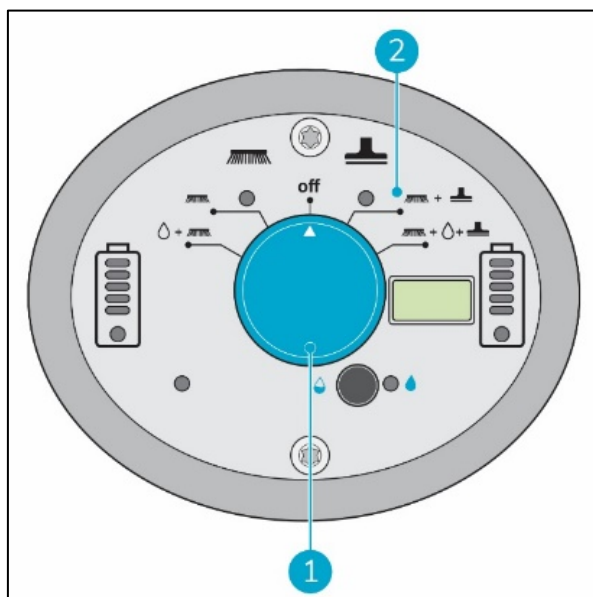

Figure 21
1. Use the i-mop XXL plus main switch (Figure 21, pos 1) and choose MODE 3 Brush + Dry vacuum (Figure 21, pos 2).